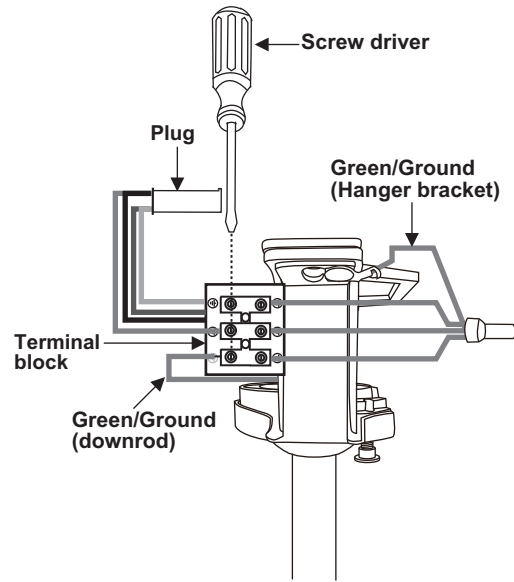

Figure 15
2. Connect the green/ground wire from the downrod ball to the terminal block. (Fig. 15)
3. Be sure to snap together the male and female plugs. (Fig. 15)